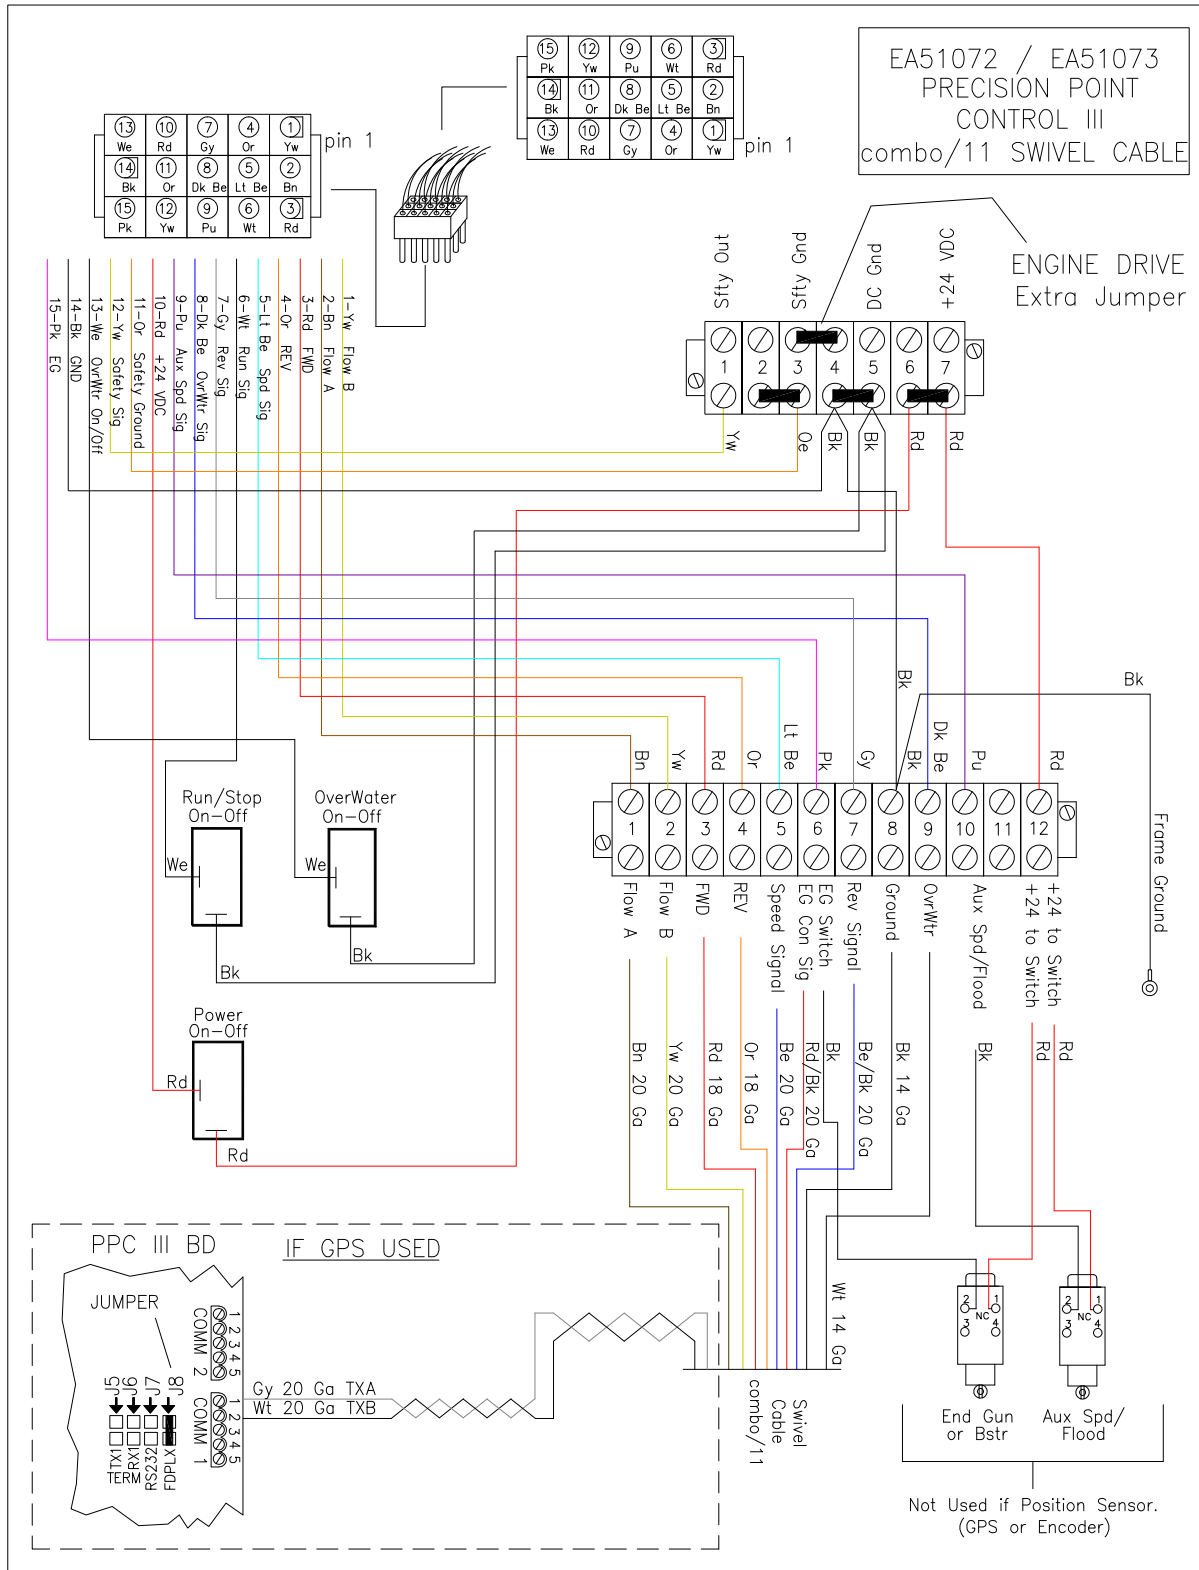

Figure 41. Wiring of Precision Point Control III Panel to Swivel Cable.
Wiring Precision Point Control III Panel (Figure 41 and 42)
- Figure 41: Precision Point Control III on Swivel Pivot Point.